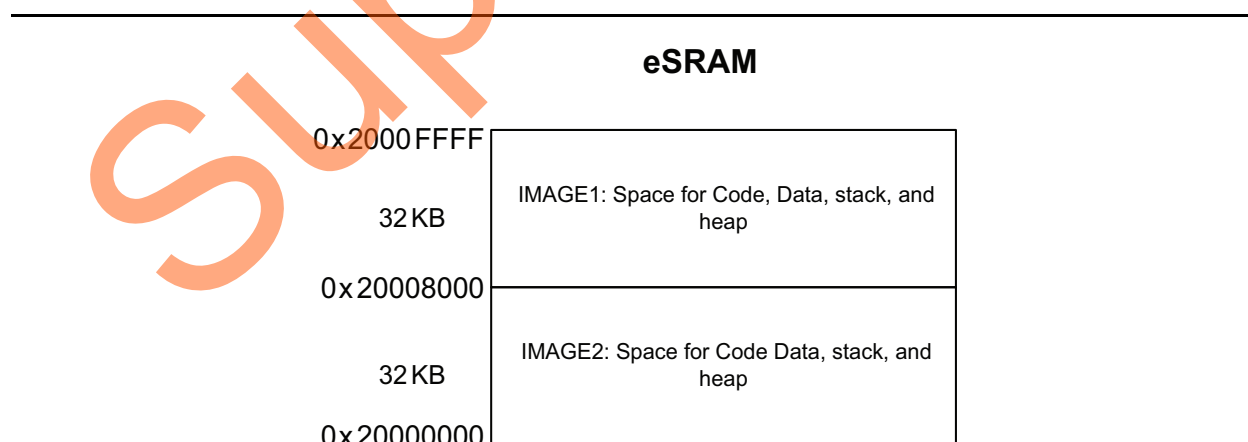
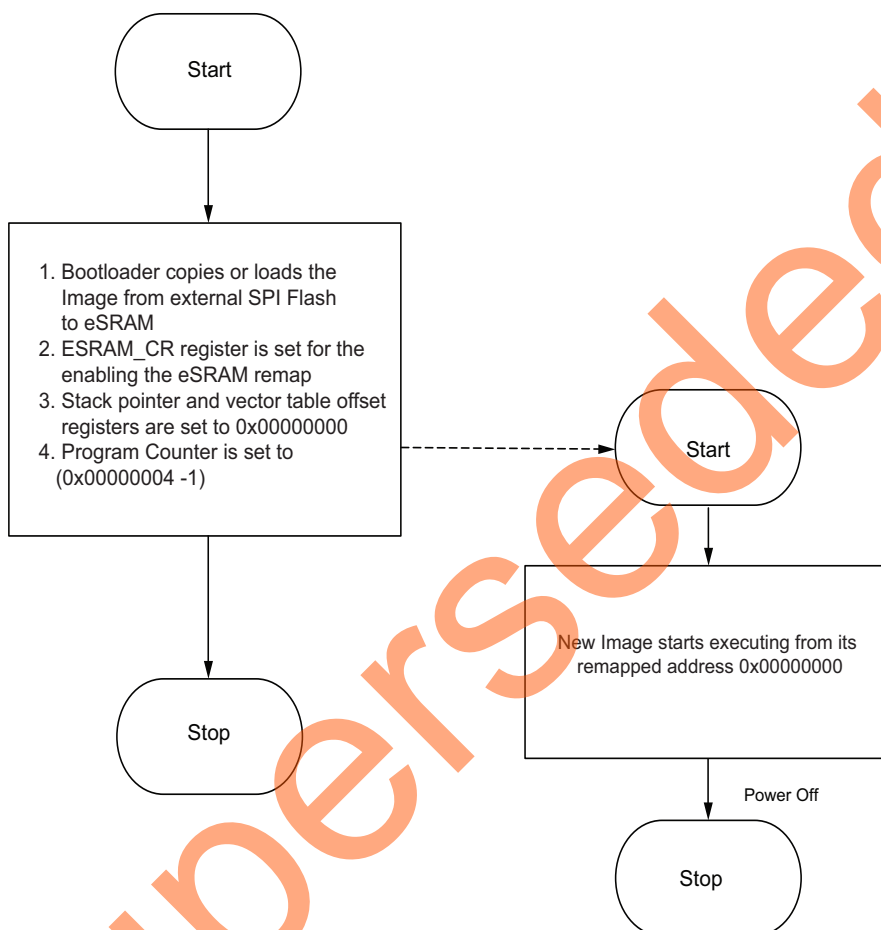

Figure 11 • Example Scenario of Multiple Executable Images in eSRAM
Figure 13 • Logic for Moving the Execution Control to New Image in eSRAM with Remapping
Figure 11 shows the example scenario of the executable images in eSRAM regions.
The above scenario, shown in Figure 11, describes two images which can be remapped to the bottom (0x0000_0000) of the Cortex-M3 processor or can be made executable for the Cortex-M3 processor. To create the independent executable images with required memory map, the linker scripts need to be created with required memory map. The linker scripts are provided in the "Appendix A: Design Files" section. Once the images are created for the required memory map in Production mode, these images are to be copied to an external memory like SPI Flash/eNVM, and are code shadowed by the bootloader to the eSRAM whenever it is required to execute the new images.
- **With Remapping:** In this approach, the new image address can be remapped to the bottom (0x0000_0000) of the Cortex-M3 processor by using the ESRAM_CR registers. As the new image address is remapped to bottom (0x0000_0000) of the Cortex-M3 processor code region the linker scripts take care of building the images from the bottom (0x0000_0000) code region. The eSRAM address should not be used instead offset address from zero has to be used in the linker scripts for this approach. This approach is explained in the flow chart shown in Figure 13.
For example, for the memory map of the different images explained in the Figure 11, the images are built with 0x00000000 as base address. If it is required to jump from the Image 2 to Image 1 then use the following steps (as explained in the Figure 13).